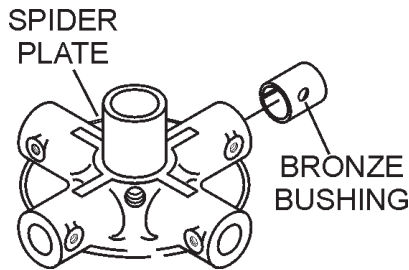

Figure 44. Bronze Bushings
4. Examine the bronze trowel arm bushing insert (Figure 44), clean if necessary. Replace bushing if out of round or worn.